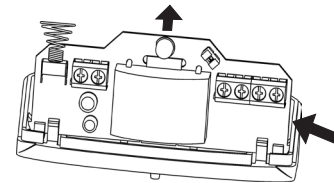

Figure 5
- Insert a screwdriver with a flat drive blade between the printed circuit board (PCB) and the back wall of the base, depress the base wall and remove the PCB (Figure 5).